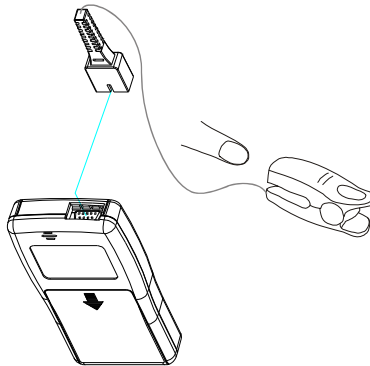

Figure 3-2: Installing and use the probe
1. Refer to Figure 3-2, Connect the Oximeter plug to pulse oximeter convex interface.